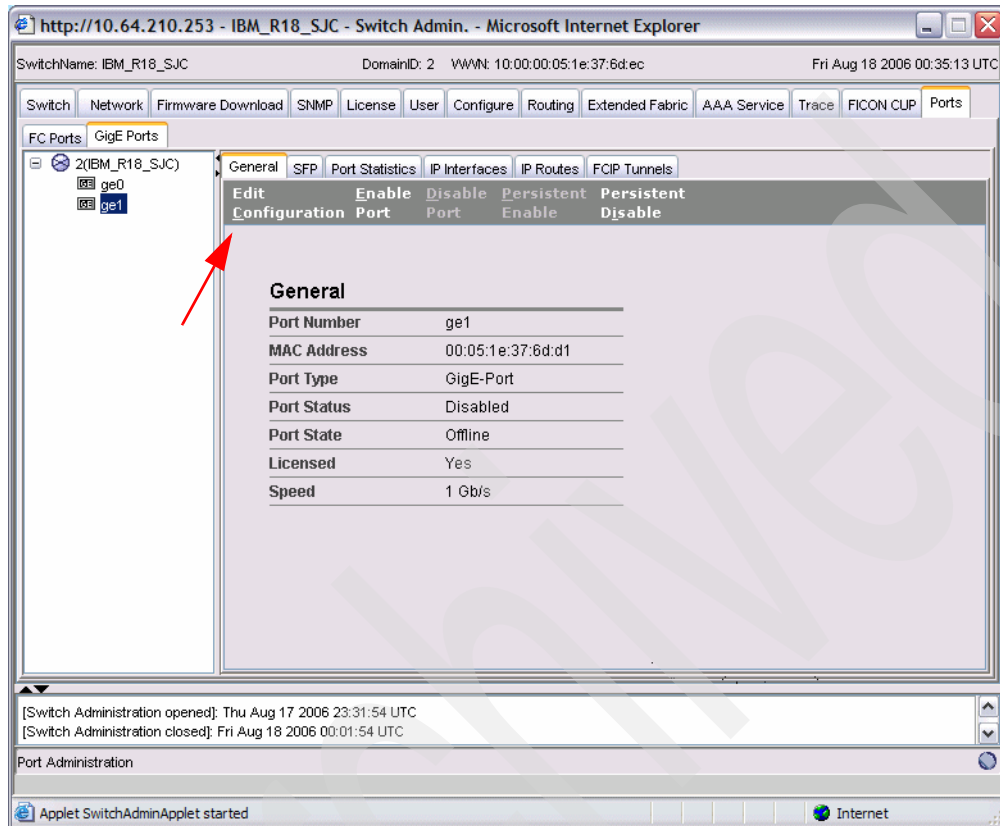

Figure 6-85 GigE ports: Edit Configuration
2. We now launch the GigE Port Configuration wizard. Select the **GigE Ports** tab and click **ge1**. Now, click **Edit Configuration**, as shown in Figure 6-85.